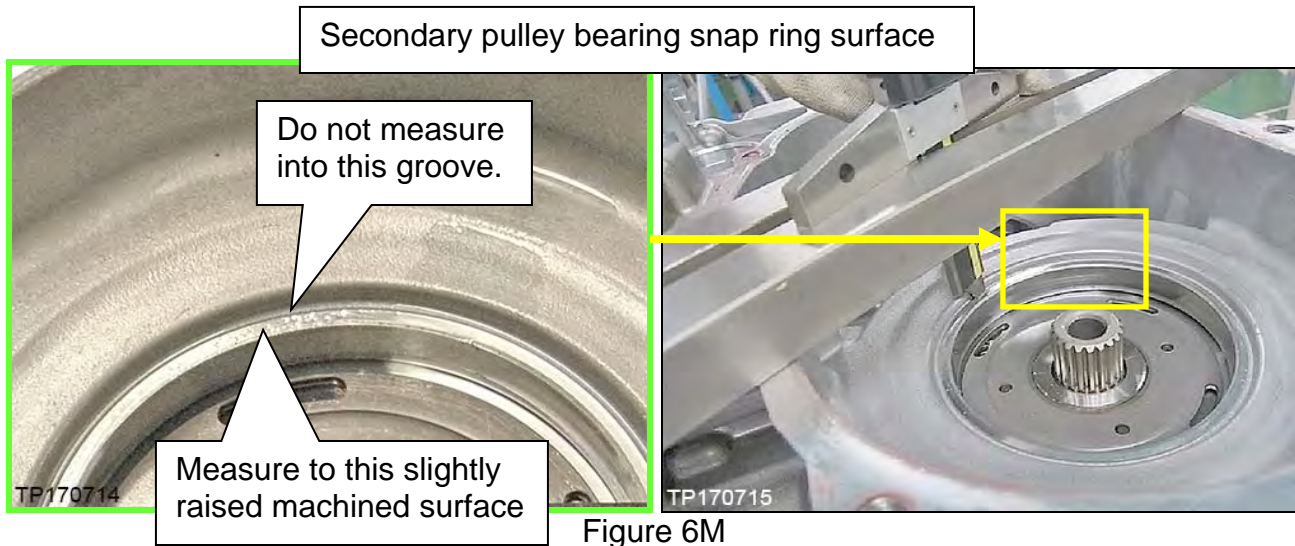

Figure 6M
- a. Measure between the top of the Gauge Block (J-50271), to where the snap ring on the secondary pulley bearing seats (Figure 6M).